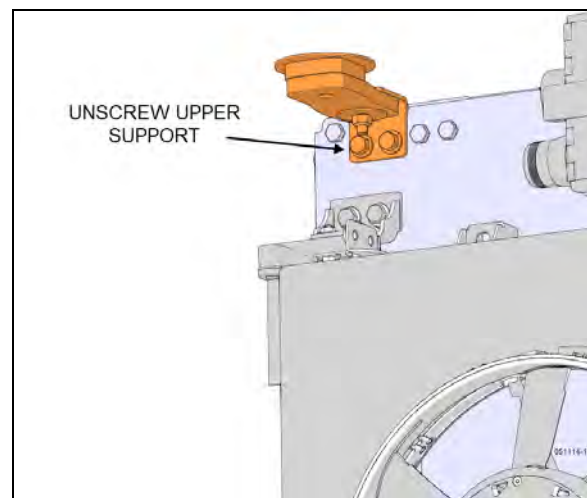

FIGURE 45: UPPER SUPPORT (CAC SIDE)
6. Unscrew the upper cooling pack support from the vehicle structure (CAC side support only Figure 45).